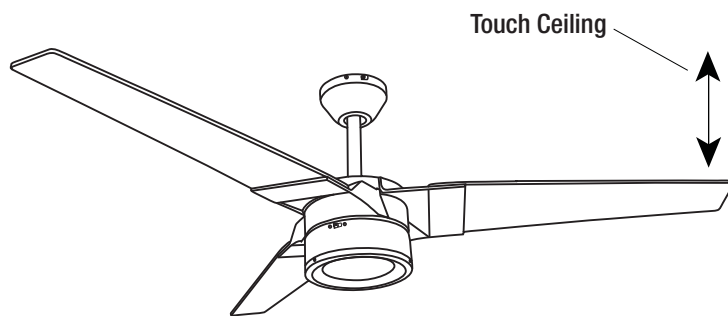

Figure 15
- Most fan wobble problems are caused when blade levels are unequal. Check this level by selecting a point on the ceiling above the tip of one of the blades. Measure this distance as shown in Figure 15. Rotate the fan until the next blade is positioned for measurement. Repeat for each blade. Measurements should be within 1/8 in.